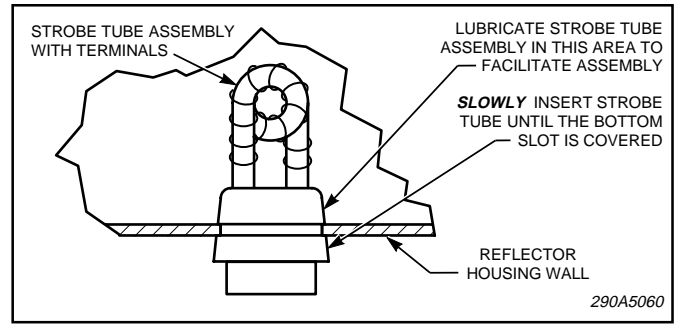

Figure 2.
5. See figure 2. SLOWLY insert the strobe tube in the reflector housing until it is properly seated in the bottom slot of the strobe tube. If the strobe tube is difficult to insert, remove it and apply a high temperature grease, or Vaseline, to the rubber edge of the strobe tube and try again.